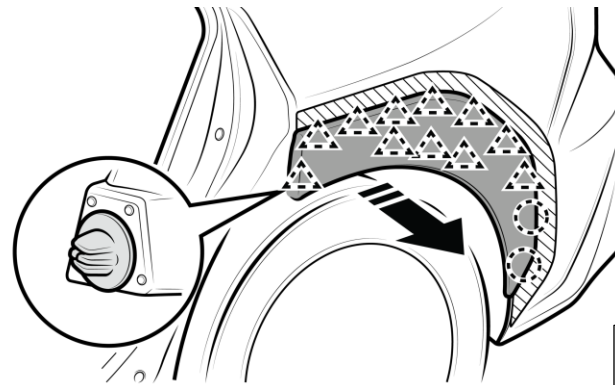

Fig 3-2
- (c) Disengage clips by pulling in direction of arrow (Fig. 3-2)